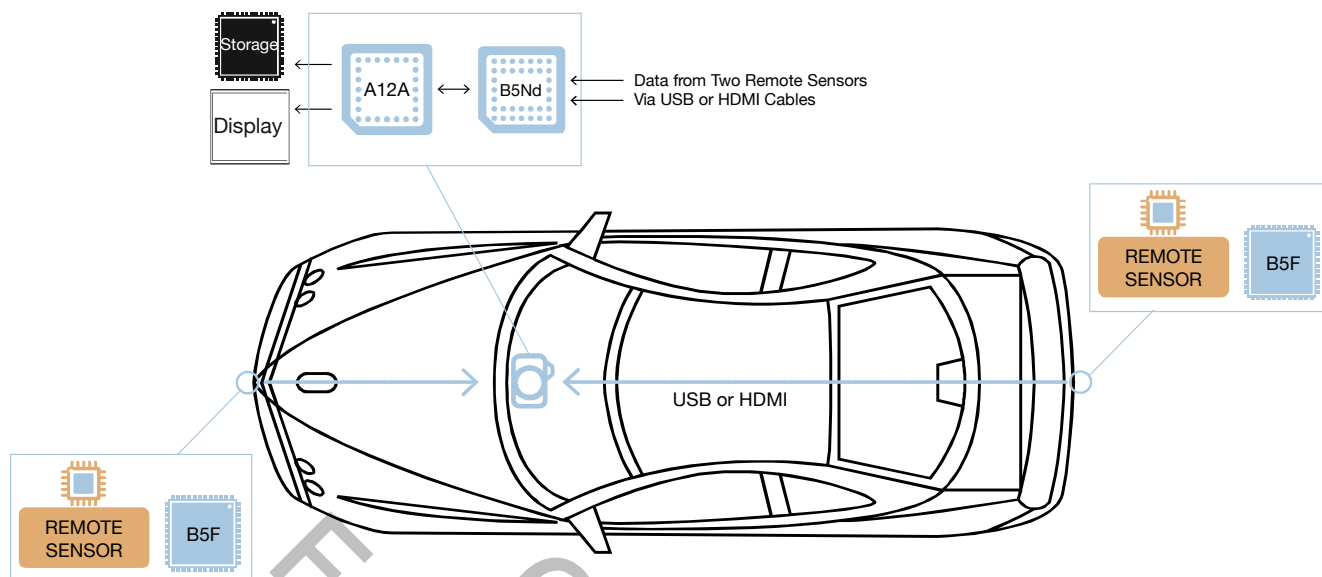

Figure 1-3. A12A75 Automotive Camera Application: Dual Remote Sensor Configuration (B5-Equipped).
1. Two remote sensor inputs are sent to the A12A75 SoC via the Ambarella B5F (serializer) and B5Nd (de-serializer) companion chips (Figure 1-3)